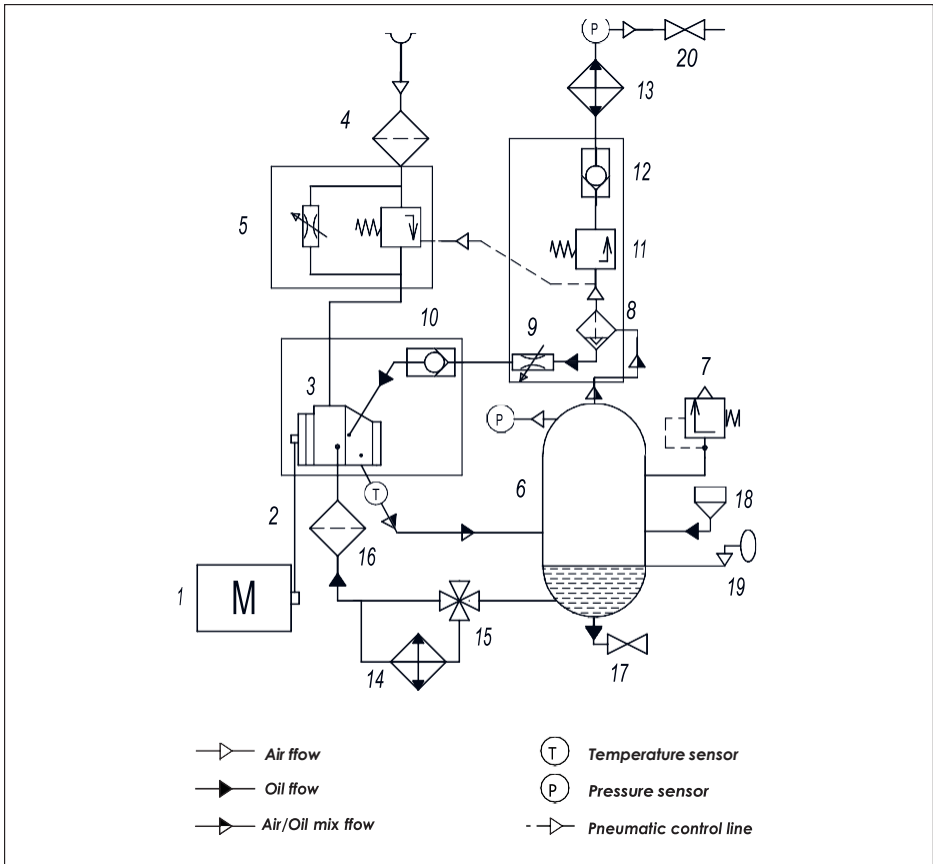

Fig. 2.3 Function diagram AV75-90
2.4 Functional description (see Fig. 2.3)